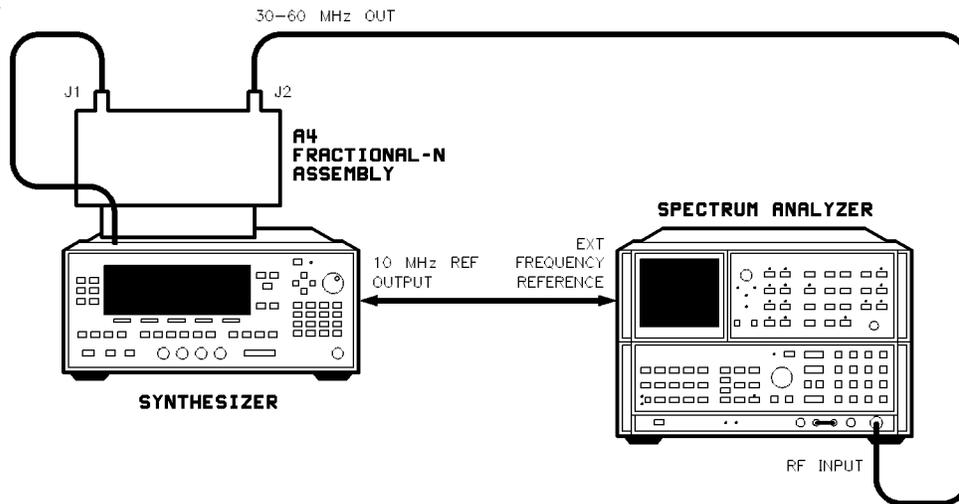

Figure 3-5. Fractional-N Reference and API Spur Adjustment Setup
1. With the A4 assembly on an analog extender board, connect the equipment as shown in Figure 3-5. Preset the instruments, and let them warm up for at least one hour.